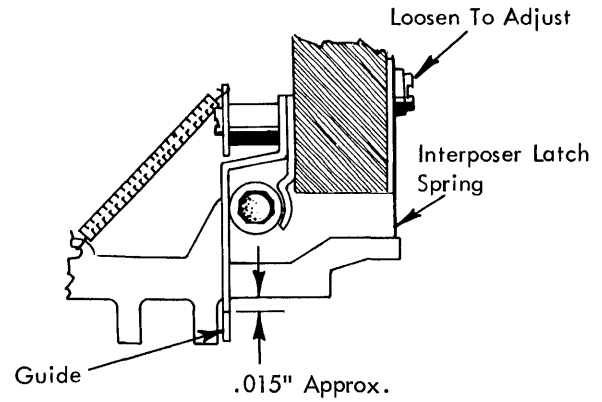

FIGURE 4. Interposer Latch Spring Adjustment
4. Interposer Latch Springs (Preliminary) With the H interposer latched down, adjust the left hand end of the right hand section of latch springs so that there will be approximately $.015''$ remaining travel of the interposer before it bottoms (Fig. 4). Check this clearance by pulling the interposer down with a spring hook.